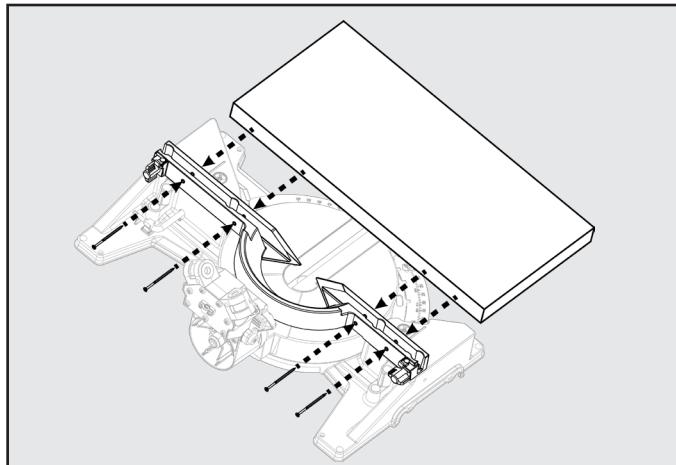
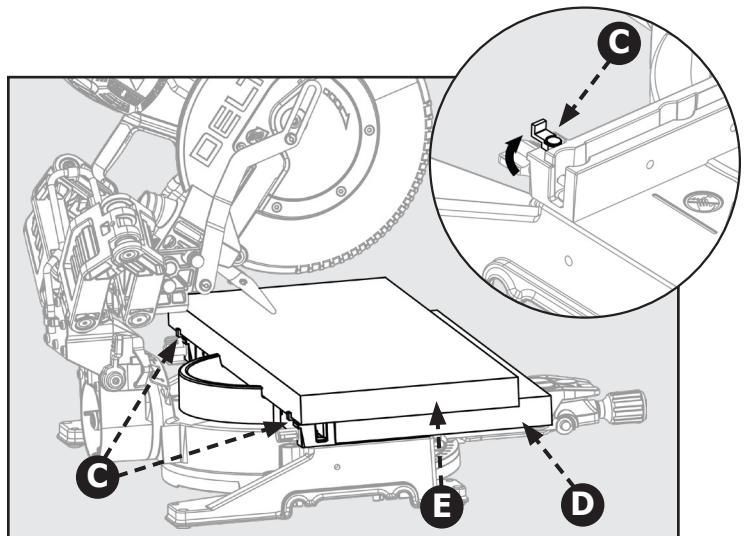

Figure 28
Figure 29
2. Flip the support tabs (C) into position. Tabs (C) are on both the left and right sides of the lower (fixed) fence. These will function as your workpiece backstop. See Figure 29.
3. You will need to add an auxiliary table board (D) to support your large capacity workpiece (E). Place a 2" x 14" auxiliary table board (D) onto the saw table and against the lower (fixed) section of the saw fence. Make sure the board is securely positioned against the lower (fixed) fence.
**NOTE: Use wood screws to secure the auxillary table board (D) to the lower (fixed) fence. See Figure 28.**
4. Use the support tabs (C) to secure your workpiece before making any cuts